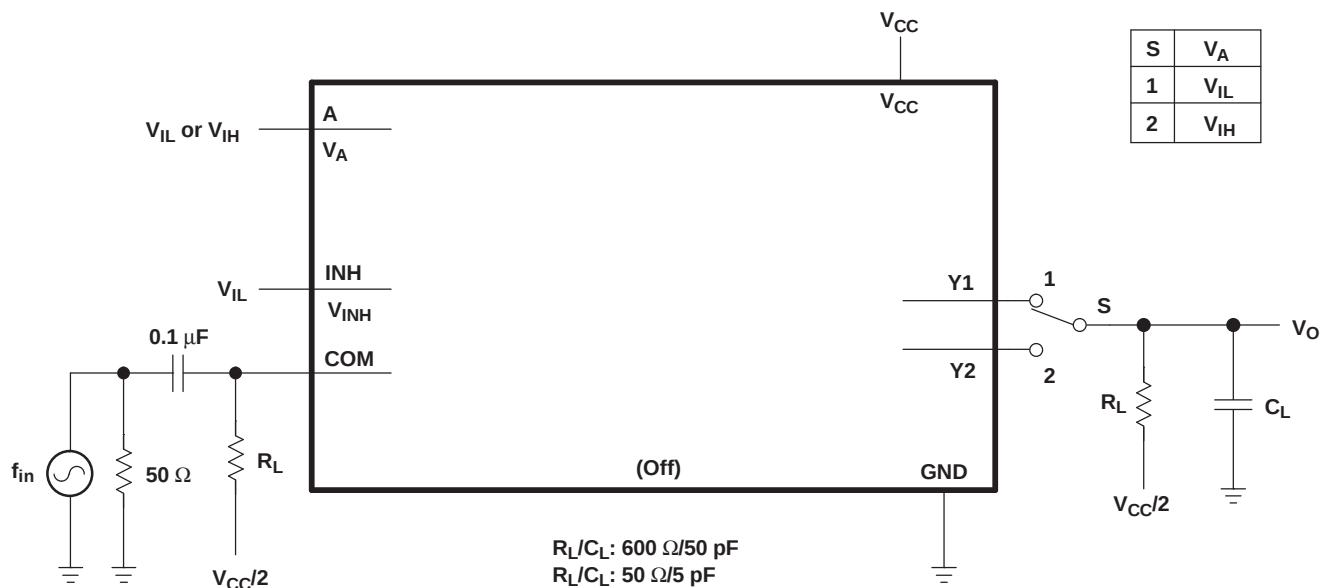

**Figure 7. Crosstalk (Between Switches)**
| Crosstalk (1) (between switches) | COM or Y     | Y or COM    | $C_L = 50\text{ pF}$ , $R_L = 600\ \Omega$ ,$f_{in} = 1\text{ MHz}$ (sine wave)(see Figure 7) | 1.65 V          | –58  | dB   |
|                                             |              |             | $C_L = 5\text{ pF}$ , $R_L = 50\ \Omega$ ,$f_{in} = 1\text{ MHz}$ (sine wave)(see Figure 7)   | 1.65 V          | –42  |      |